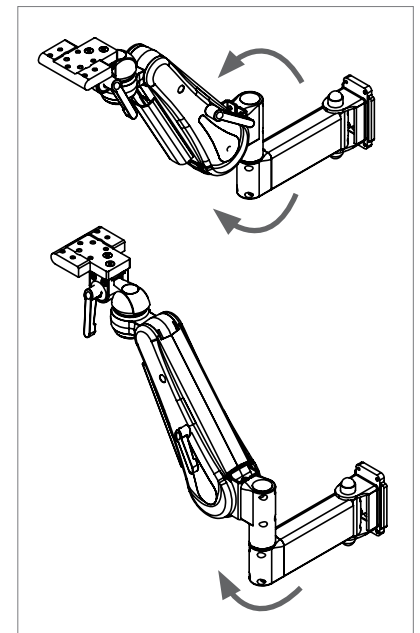

Figure 3
2. **Rotate at Extension Joint:** Hold the **EXTENSION ARM** with one hand and push on the side of the AHM Arm with the mounted **MONITOR** in the direction desired (Figure 3).